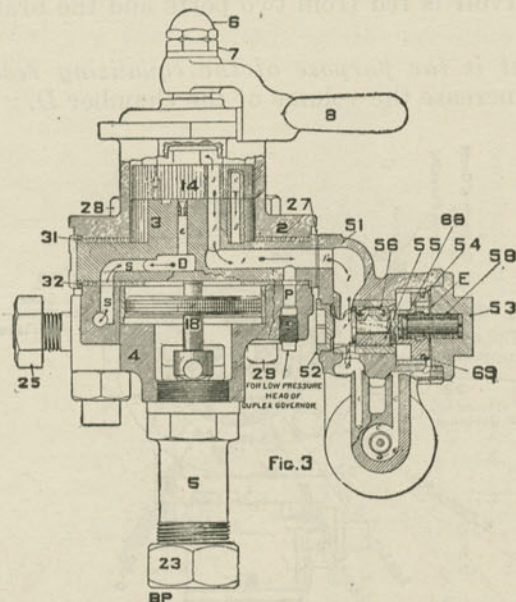
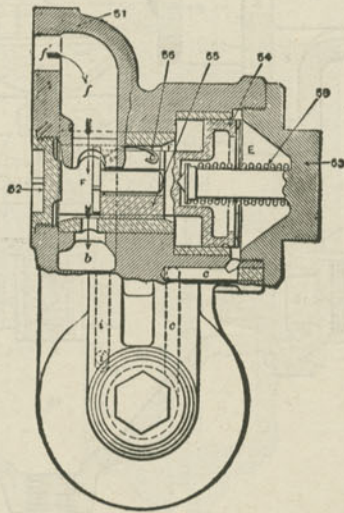
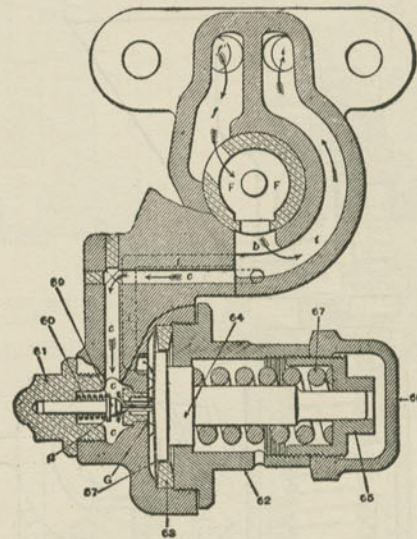

Fig. 447. Engineer's Brake Valve, "G-6," Running Position.
Fig. 451. Slide-Valve Feed Valve.
Fig. 452. Slide-Valve Feed Valve.
A. Referring to Figs. 451 and 452: this valve is used with any automatic brake valve to keep up desired brake pipe pressure while the brake handle stands at "running."
Fig. 451 is a central section through the supply-valve case and governing device; Fig. 452 one through the regulating valve and spring box and a cross section through the supply-valve case. Ports *f* and *i* register with brake-valve ports (similarly lettered in Fig. 447), and in the